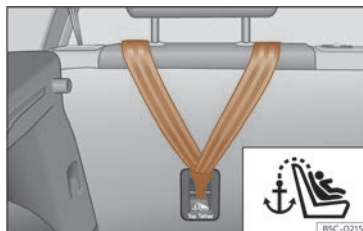
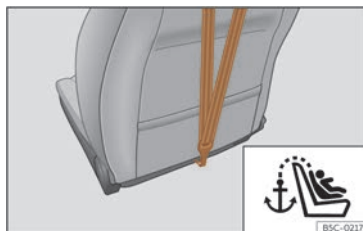

Fig. 46 Rear part of the rear seats: Top Tether strap anchor.
Fig. 47 Rear of front passenger seat backrest: Top Tether strap anchor.
- Slide the strap and secure it properly with the anchor on the rear seat backrest >>> **Fig. 46** , >>> **Fig. 47**.